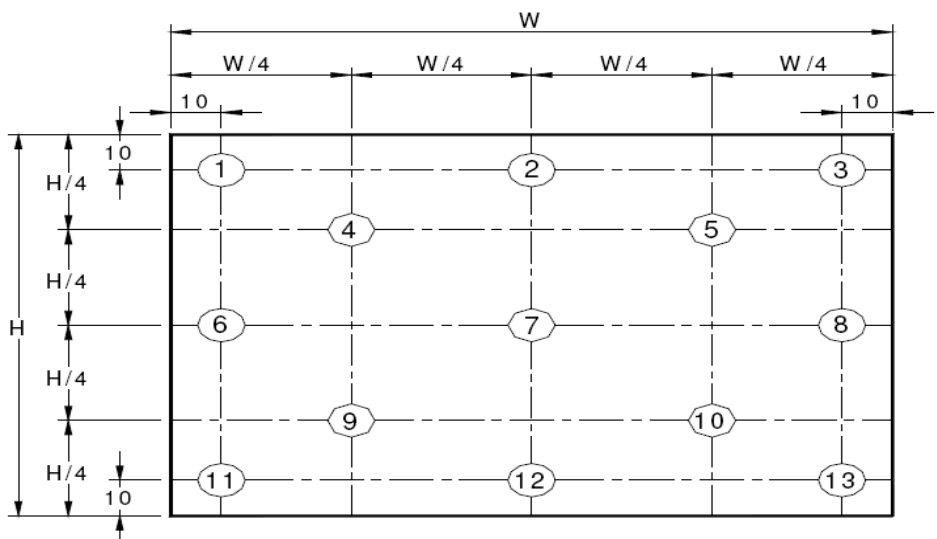

Figure 9. Uniformity Measurement Locations (13 points)
<p>Notes :</p> <ol style="list-style-type: none"> <li>Viewing angle is the angle at which the contrast ratio is greater than 10. The viewing angles are determined for the horizontal or 3, 9 o'clock direction and the vertical or 6, 12 o'clock direction with respect to the optical axis which is normal to the LCD surface (see Figure 7).</li> <li>Contrast measurements shall be made at viewing angle of <math>\Theta = 0</math> and at the center of the LCD surface. Luminance shall be measured with all pixels in the view field set first to white, then to the dark (black) state . (see Figure 7) Luminance Contrast Ratio (CR) is defined mathematically. <div data-bbox="285 672 1071 763" data-label="Equation-Block"> <math display="block">CR = \frac{\text{Luminance when displaying a white raster}}{\text{Luminance when displaying a black raster}}</math> </div> </li> <li>Center Luminance of white is defined as luminance values of 5 point average across the LCD surface. Luminance shall be measured with all pixels in the view field set first to white. This measurement shall be taken at the locations shown in Figure 8 for a total of the measurements per display.</li> <li>The White luminance uniformity on LCD surface is then expressed as : <math>\Delta Y = \text{Minimum Luminance of 5(or 13) points} / \text{Maximum Luminance of 5(or 13) points.}</math>(see Figure 8 and Figure 9).</li> <li>The color chromaticity coordinates specified in Table 5 shall be calculated from the spectral data measured with all pixels first in red, green, blue and white. Measurements shall be made at the center of the panel.</li> <li>The electro-optical response time measurements shall be made as Figure 10 by switching the “data” input signal ON and OFF. The times needed for the luminance to change from 10% to 90% is <math>T_r</math>, and 90% to 10% is <math>T_r</math>.</li> <li>Cross-Talk of one area of the LCD surface by another shall be measured by comparing the luminance (YA) of a 25mm diameter area, with all display pixels set to a gray level, to the luminance (YB) of that same area when any adjacent area is driven dark. (See Figure 11).</li> </ol>
The White luminance uniformity on LCD surface is then expressed as :  $\Delta Y5$  = Minimum Luminance of five points / Maximum Luminance of five points (see Figure 8) ,  $\Delta Y13$  = Minimum Luminance of 13 points /Maximum Luminance of 13 points (see Figure 9).